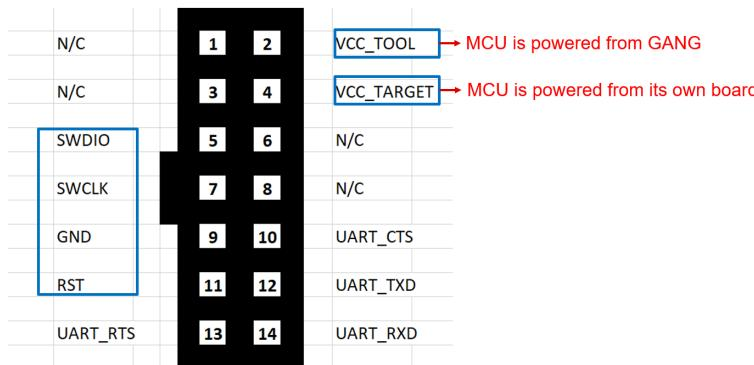

Figure A-18. MSP-GANG Pin Assignment
1. Finish the pin connection used for SW, as shown in Figure A-18.